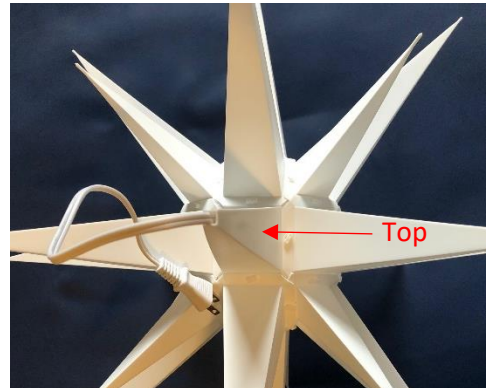

Figure 2: Top Point of Star
2. Identify the top point of the star. This will be the point with the electrical cord extending out of the tip, Figure 2.